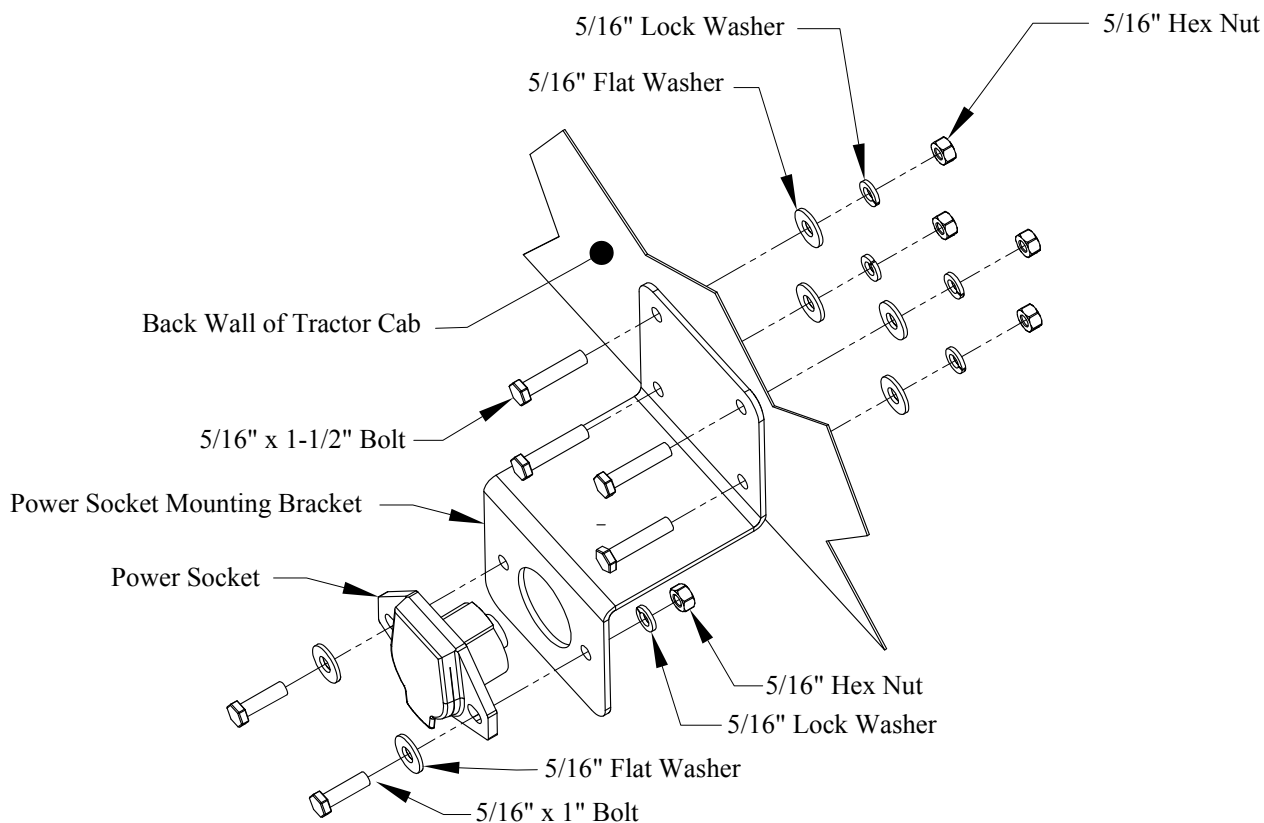

Figure 2: Power Socket and Bracket.
If there is not a suitable location on the tractor cab, it may be necessary to mount the power socket mounting bracket to a frame crossmember near the rear wall of the tractor cab (Figure 2).
3. **Fasten** the power socket mounting bracket to the tractor using the supplied 5/16" x 1-1/2" bolts, flat washers, lock washers, and nuts (Figure 2).
4. **Fasten** the power socket to the power socket mounting bracket using the supplied 5/16" x 1" bolts, flat washers, lock washers, and nuts (Figure 2).